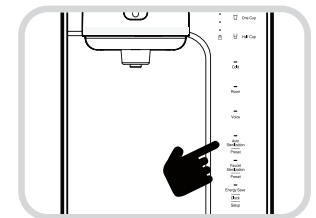

Fig. 13
2. Press the Automatic Sterilization/Preset button if the Automatic Sterilization/Preset button Display Lamp is OFF. (Fig. 13).